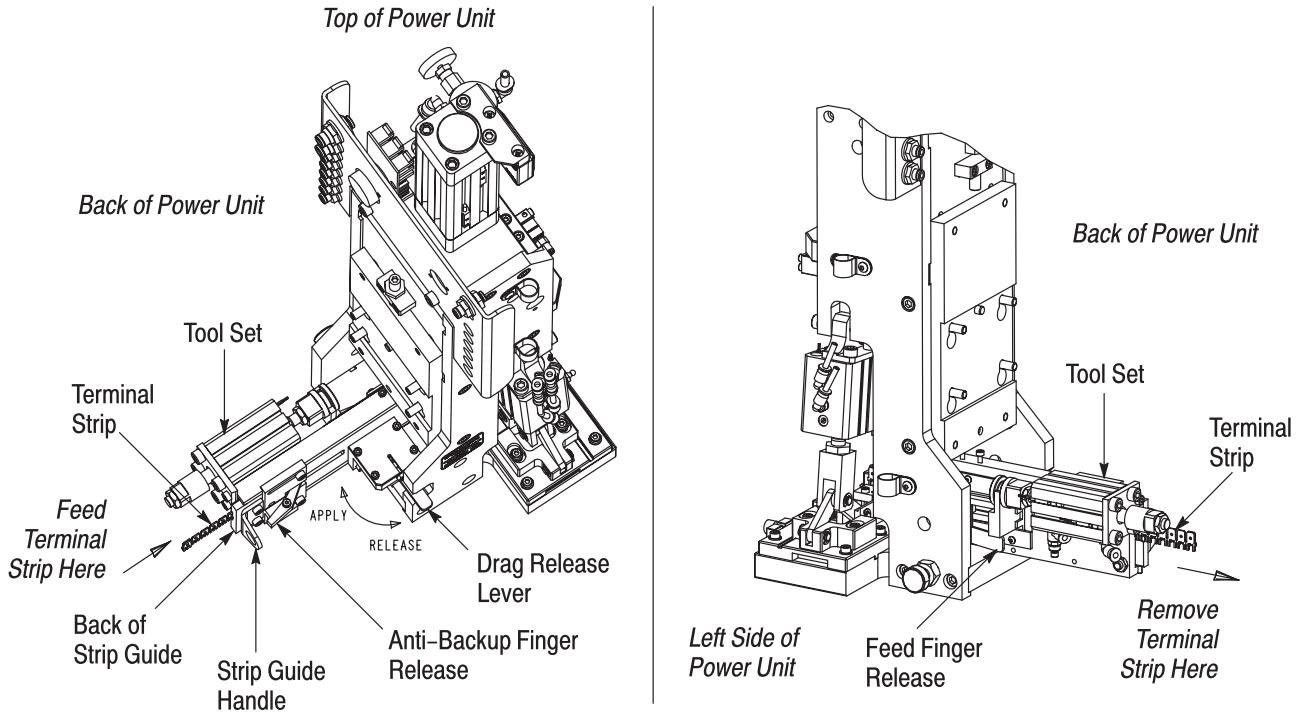

Figure 8
4. Facing the back of the power unit, rotate the drag release lever outward until it stops to release the drag from the terminal strip. See Figure 8. If a section of the terminal strip is in the tool set, depress and hold both the feed finger release (on left side of tool set) and anti-backup finger release (on right side of tool set), and pull the section of the terminal strip out of the back of the strip guide.
6. Continue to advance the terminal strip until it appears at the front of the strip guide, then retract it slightly until the feed finger engages the terminal strip. Refer to Figure 8.
7. Facing the tool set, rotate the drag release lever inward until it stops to apply drag to the terminal strip. See Figure 8.
4. Using the strip guide handle, pull the strip guide insert to the back of the feed package (refer to Figure 8). Remove the strip guide insert.
3. Cut the terminal strip at the back of the tool set. It is recommended that a section of the terminal strip always remain in the tool set for terminal identification. If it is necessary to remove the section of the terminal strip, depress and hold both the feed finger release (on left side of tool set) and anti-backup finger release (on right side of tool set), and pull the section of the terminal strip out of the back of the tool set (refer to Figure 8).